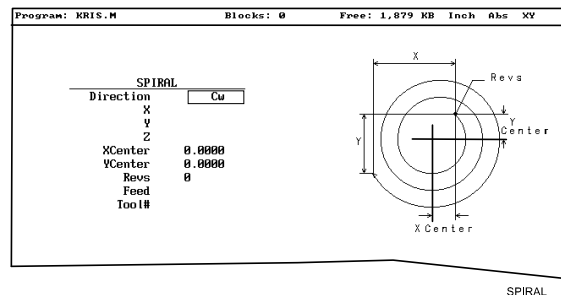

Figure 5-26, SPIRAL Graphic Menu
3. Highlight **Spiral**, and press **ENTER**. The **SPIRAL** Graphic Menu prompts for labeled values. Refer to **Figure 5-26**.